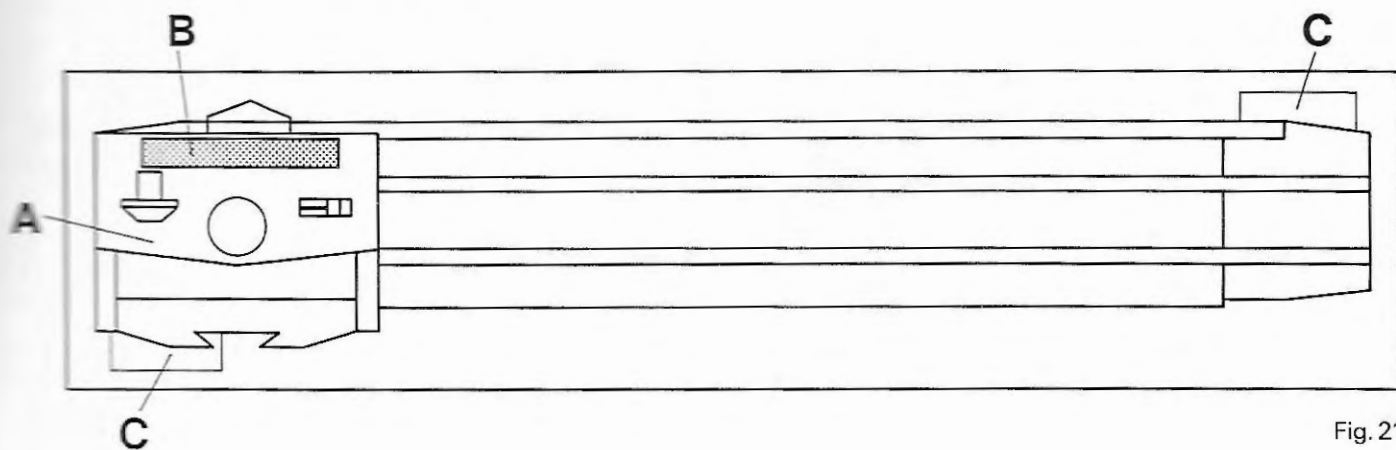

Fig. 21
The lock (A) is on your left. Seize it by its handle (B) and move it to the middle. Now lift the machine out of the box: **Not** by its handle (B), but by its body (C), at the righthand back end and lefthand front end where you find the corresponding recesses in the wall of the box. Fig. 21.